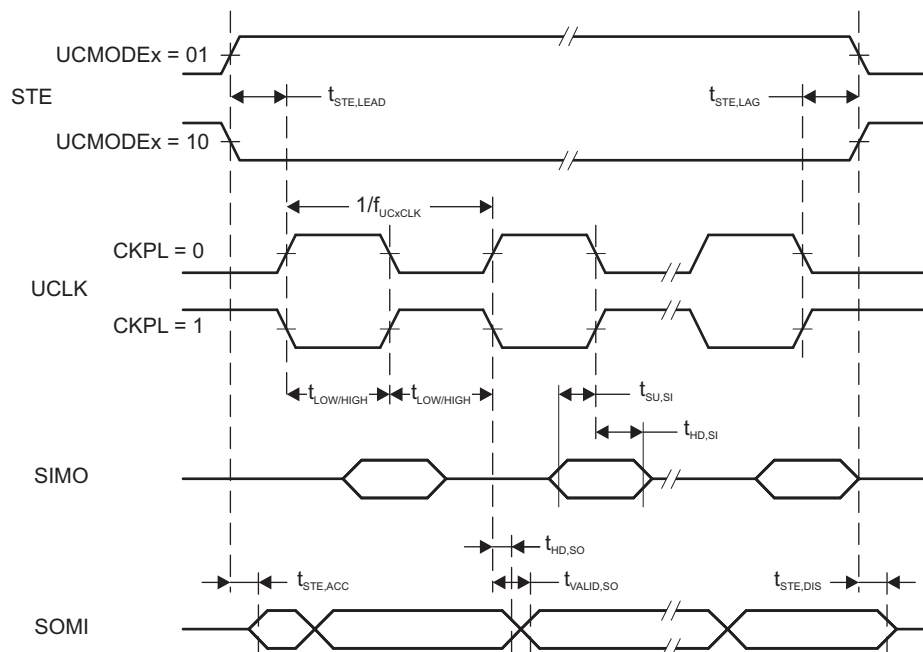
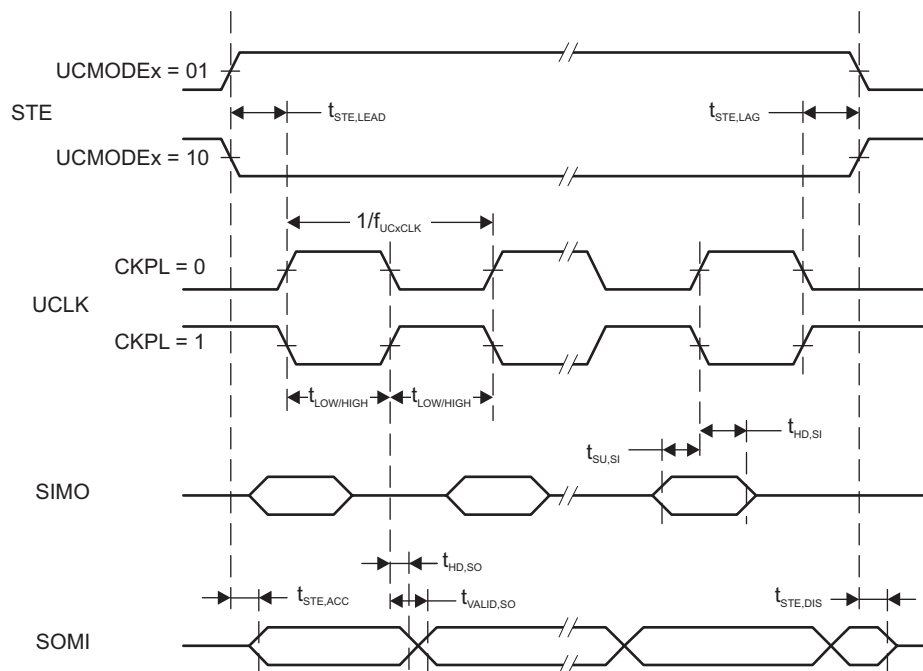

Figure 4-17. SPI Slave Mode, CKPH = 0
Figure 4-18. SPI Slave Mode, CKPH = 1
(2) Specifies the time to drive the next valid data to the SOMI output after the output changing UCLK clock edge. See the timing diagrams in Figure 4-17 and Figure 4-18.
(3) Specifies how long data on the SOMI output is valid after the output changing UCLK clock edge. See the timing diagrams in Figure 4-17 and Figure 4-18.